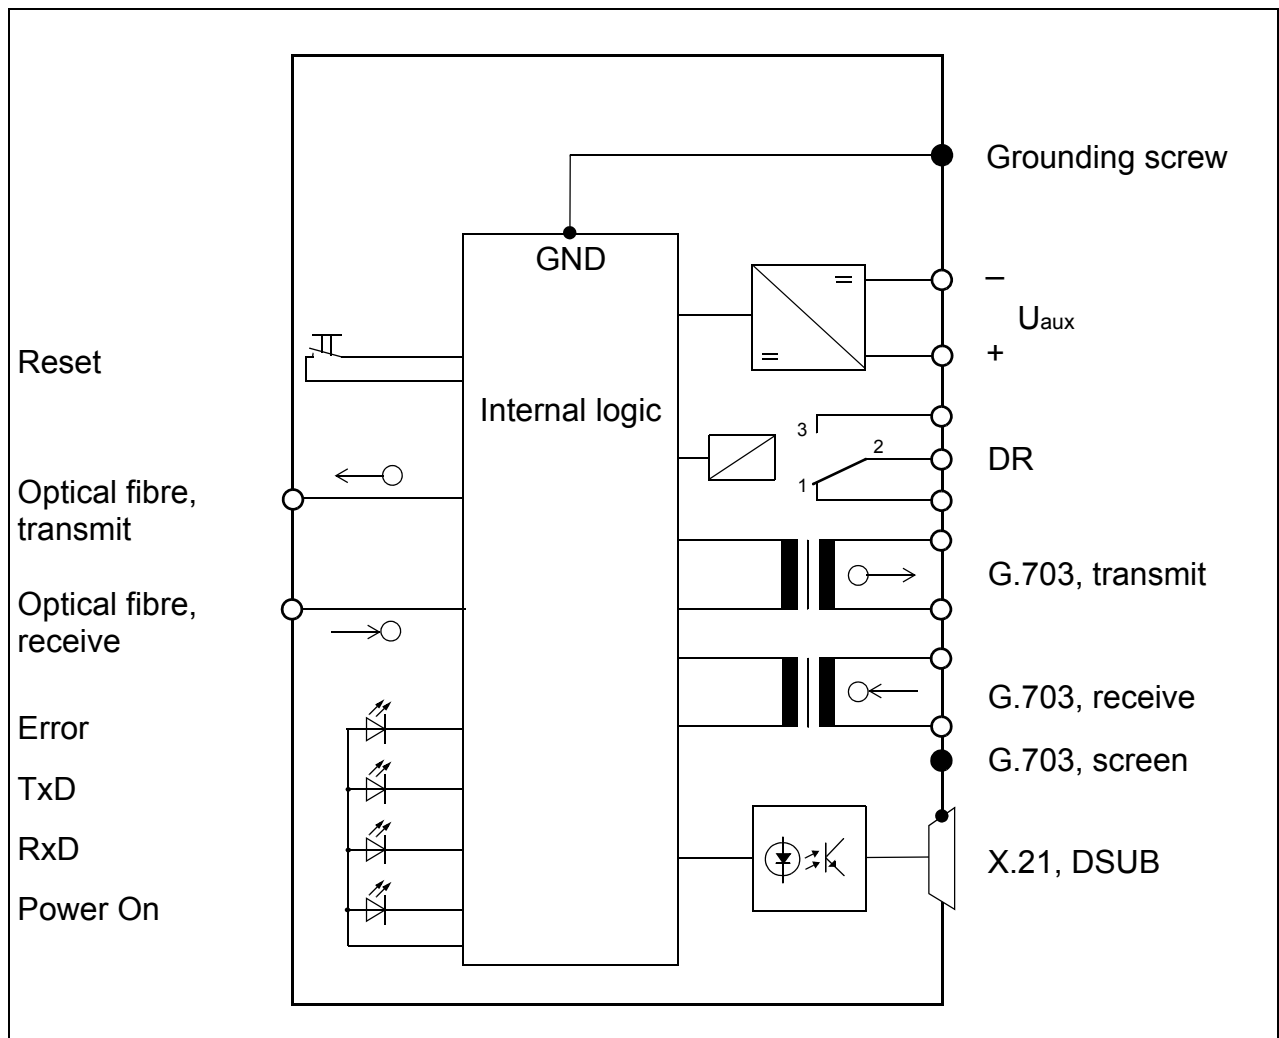

Figure 13 Hardware structure of the communication converter
The task of the communication converter is to perform an adaptation of the available fibre optic active interface in the protection device (DTE) to the physical specification of the respective interface of the communication network (DCE). The adaptation occurs synchronously and completely bit-transparent, i.e. direct forwarding of the information without adding or filtering out information. Figure 13 shows the hardware structure.
- ❑ **X.21:** The signals of the X.21 interface must be applied to the 15-pole DSUB–connector (X.21). The cable screen is connected to the housing. The X.21 signals are electrically isolated from the other electrical circuits (Figure 13).
- ❑ **G.703.1:** The signals of the G.703.1 interface must be applied to the 5-pole screw terminal (G.703) (one incoming and one outgoing pair of strands in each case). The fifth screw terminal adjacent on the left ('S') is for contacting the cable screen and is connected to the housing. The G.703.1 signals are electrically isolated from the other electrical circuits (Figure 13).